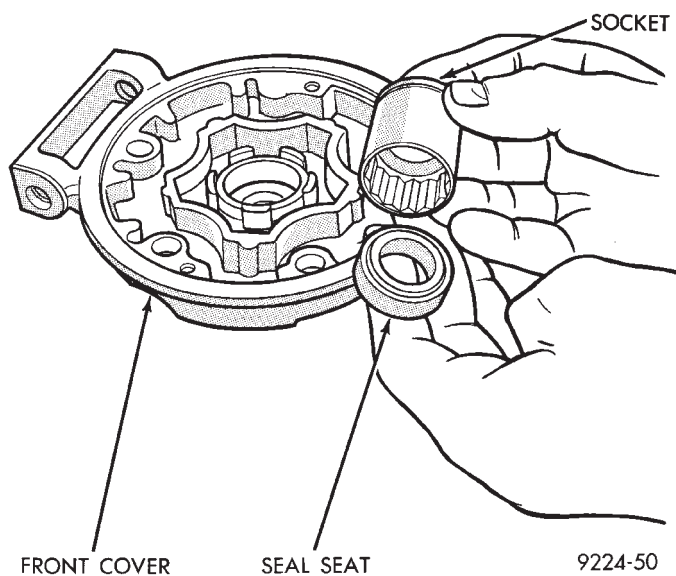

Fig. 9 Match Socket to Outer Seal Diameter
- (3) Install steel gasket.
- (4) Clean crankshaft and coat lightly with refrigerant oil.
- (5) Lubricate crankshaft seal seat cavity of front housing with refrigeration oil.
- (6) Lubricate crankshaft lip seal and seal O-ring with refrigeration oil. Then install lip seal in front cover using a socket that contacts the outer diameter of the lip seal (Figs. 9 and 10).